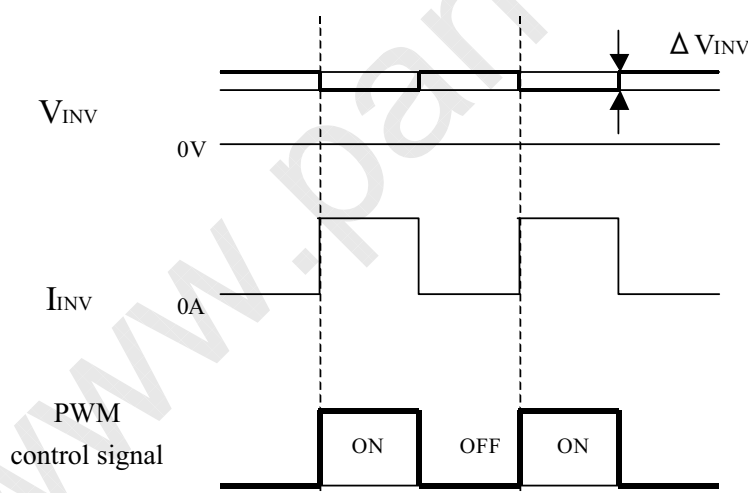

Fig.4 Brightness control voltage
- Brightness control voltage is switched for "ON" and "OFF", as shown in Fig.4. Voltage difference generated by this switching, ΔV_{INV} , may affect a sound output, etc. When the power supply is shared between the inverter and its surrounding circuit. So, separate the power supply of the inverter circuit with the one of its surrounding circuit.
Packing form figures are shown in Fig.4